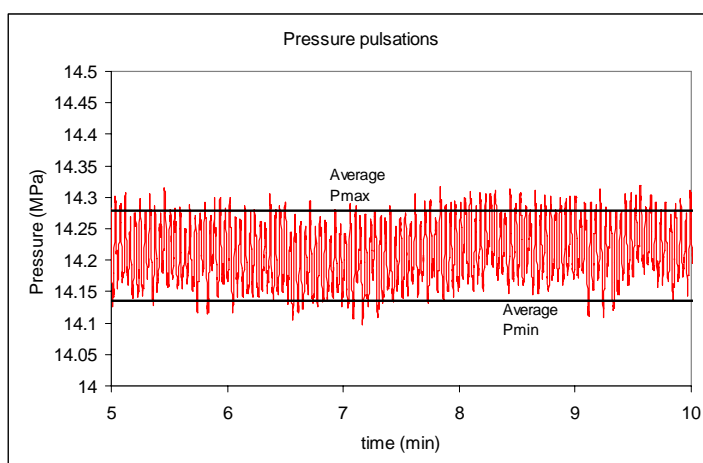

Fig. 12. Pressure signal with lines indicating Pmax and Pmin.
8. When using a line recorder determine the average maximum and minimum pressure values at 1 mL/min, as depicted in figure 12 . Draw straight parallel lines through minimum and maximum. Subsequently, determine c ($c = P_{\max} - P_{\min}$).